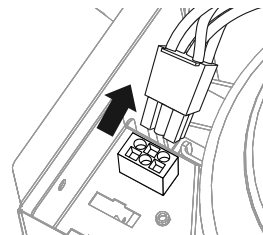

Fig. 6
- Unplug the motor from the receptacle. See figure 6.